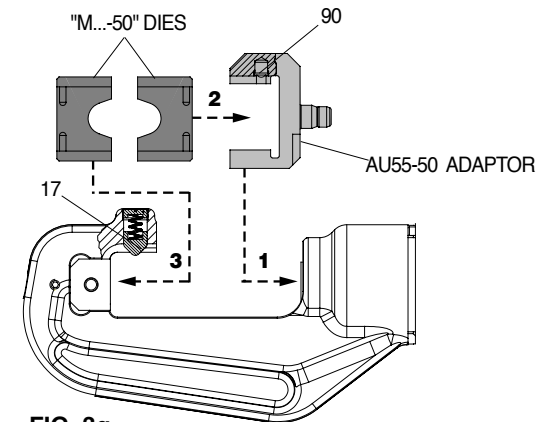
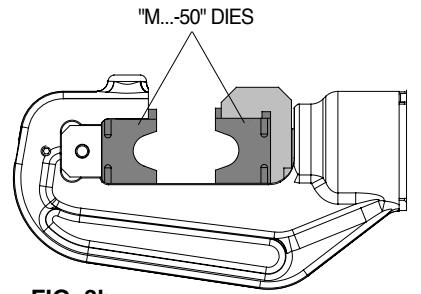

FIG. 3g
FIG. 3h
- Insert the AU55-50 adaptor into the seat of the ram (1) (see Fig. 3g).
- Insert one M...-50 type die into the adaptor AU55-50 (2) and one into the upper part of the head (3); the two dies will be held by pins (17 and 90).
- To disassemble them it will be sufficient to slip them from the head (see Fig. 3h).